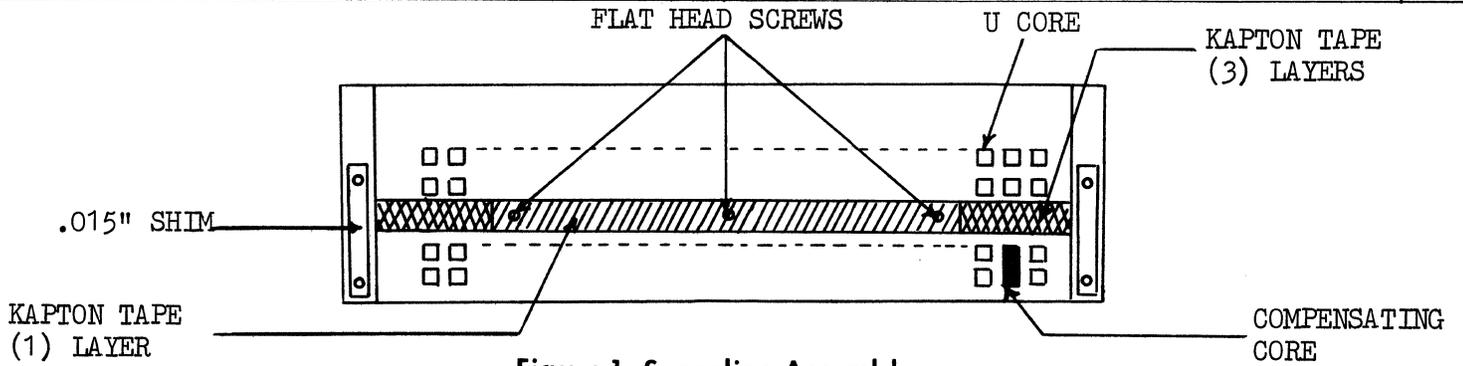

Figure 1. Senseline Assembly
19. Add 1/2" wide protective tape (see list of recommended tapes below) on the solder side of the senseline printed circuit board. Apply one layer of tape between the two rows of U cores, and two additional layers on either end of the board over the top of the first layer. Extend the short strips up to the outer flat head screws as illustrated in Figure 1. Tape must be Kapton2 type, .0025" thick.